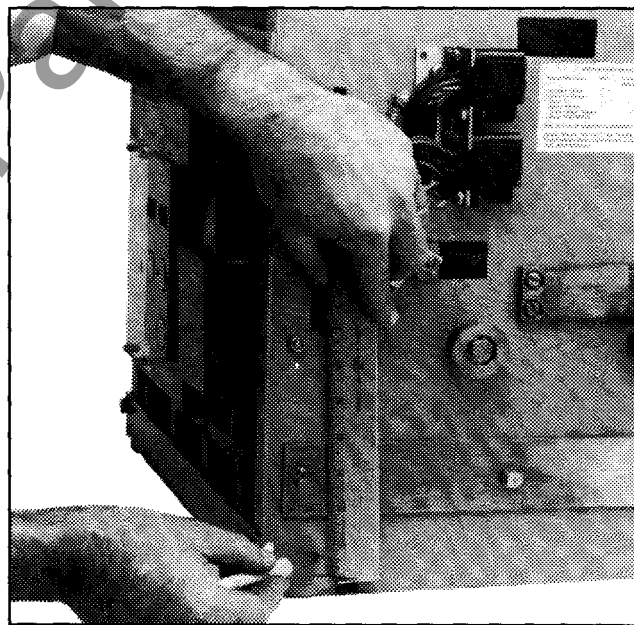

Fig. 20. Marking the Trip Arm Travel
9.2.1 With breaker A removed from the cell, turn the lever-in mechanism until the indicator shows either TEST or CONNECTED. Remove the socket and mark the right side sheet of the breaker carriage where the trip arm extends through the side sheet. Measure up .5 in. (1.25 cm) from this resting position and place another mark (see Fig. 20). This marks the .5 in. (1.25 cm) of travel needed to ensure the lockout of this breaker. Turn the lever-in mechanism back to the WITHDRAW position.